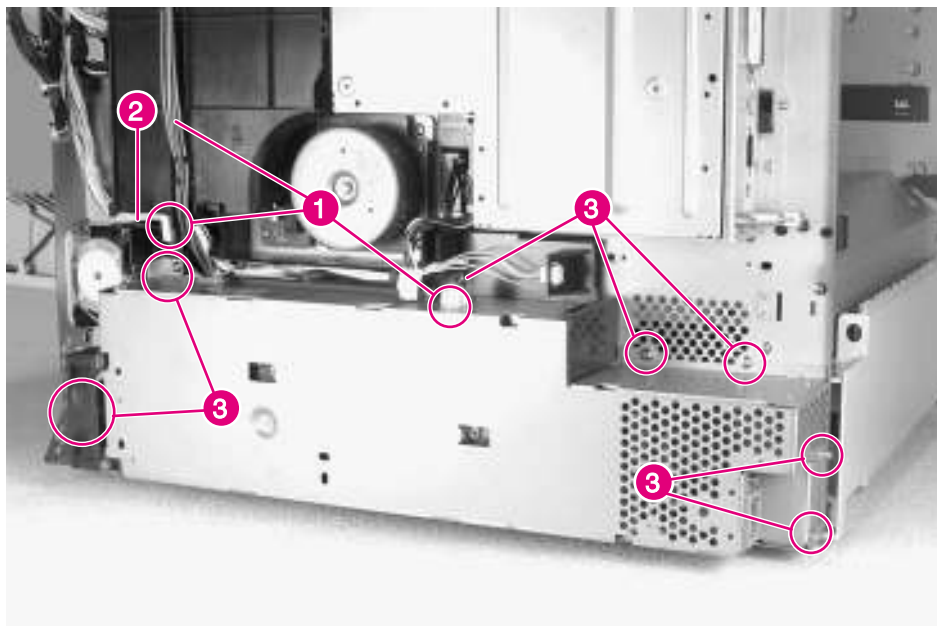

Figure 6-52 Low Voltage Power Supply
- Low Voltage Power Supply (LVPS) (see figure 6-52)
- 4 Unplug 3 LVPS connectors (figure 6-52, callout 1).
- 5 Unplug the LVPS fan (FM1) cable from the DC Controller (figure 6-52, callout 2).
- 6 Remove 7 screws (figure 6-52, callout 3).